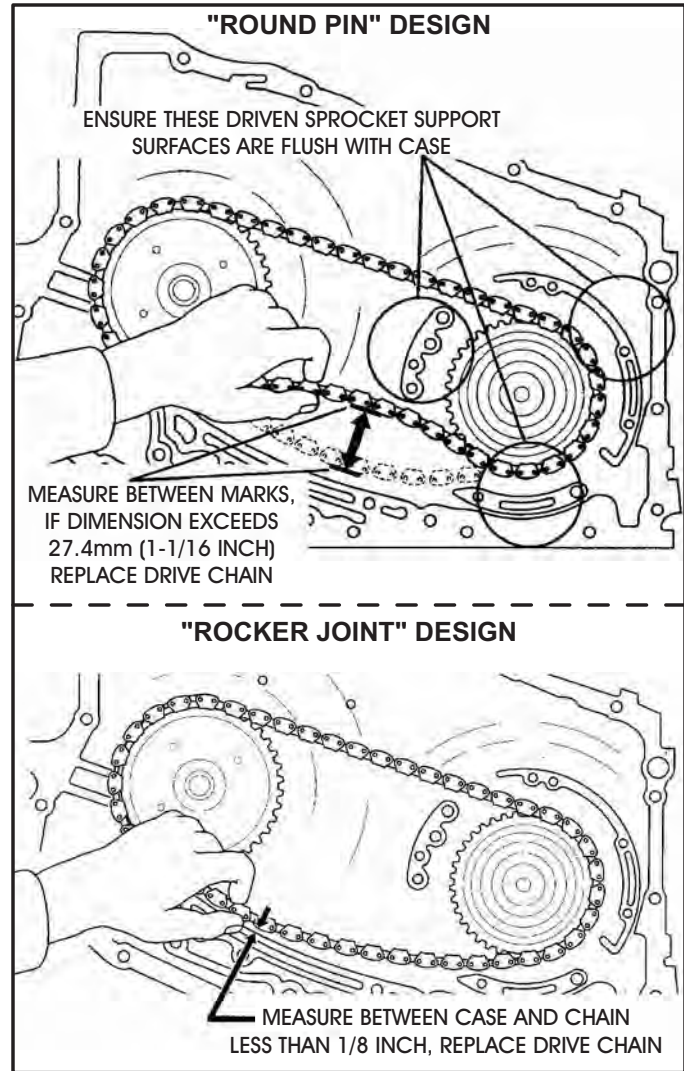

Figure 189
49. Check the drive chain assembly for any wear. The procedures are different for the Round Pin design and the Rocker Joint design, as shown in Figure 189.
50. Midway between sprockets push bottom part of drive chain towards top section until all of slack is removed, and mark case, as shown in Figure 189.
51. Pull drive chain in opposite direction until all slack is removed, and again mark the case, as shown in Figure 189.
53. Pull the drive chain towards the case in location shown in Figure 189.
54. Measure between the drive chain and case, as shown in Figure 189.